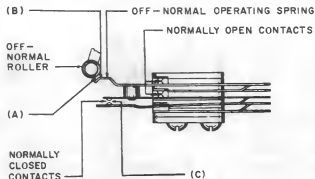

Fig. 15—Off-Normal Operating Spring Clearance
2.30 Off-Normal Operating Spring Clearance: Fig. 15(A)
Fig. 15(B)—The off-normal operating spring shall not prevent the wiper assembly from returning to normal when the wiper springs are released from the first step.
- (c) **204C, E, and F Selectors:** Fig. 15(C)—With the No. 6 spring resting against the No. 5 spring, the separation between the pair of contacts that are opened when the wiper assembly is rotated to the first step shall be